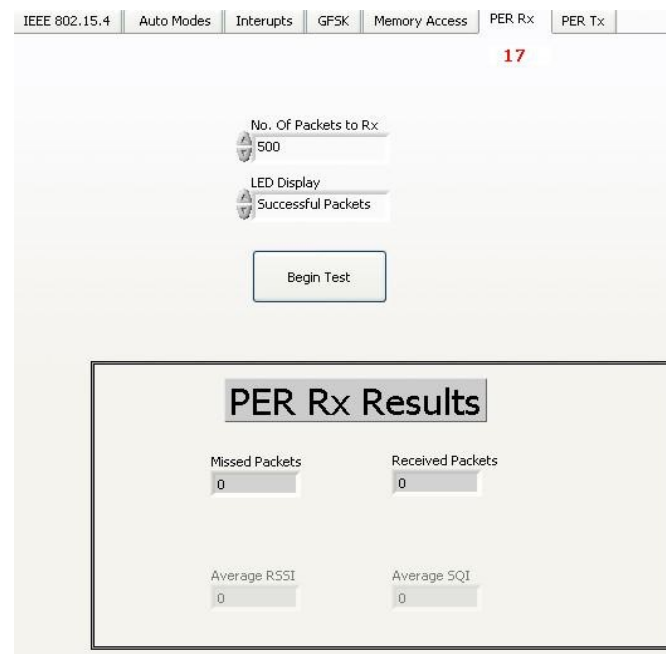

Figure 6 RX PER tab
17. One board may be configured as the receiver and the other as the transmitter. First set up the receiver: write the desired mode setting and frequency and under the RX PER tab select the number of packets to include in the PER test. Then select *Begin test*. The RX PER tab is shown in figure 6.